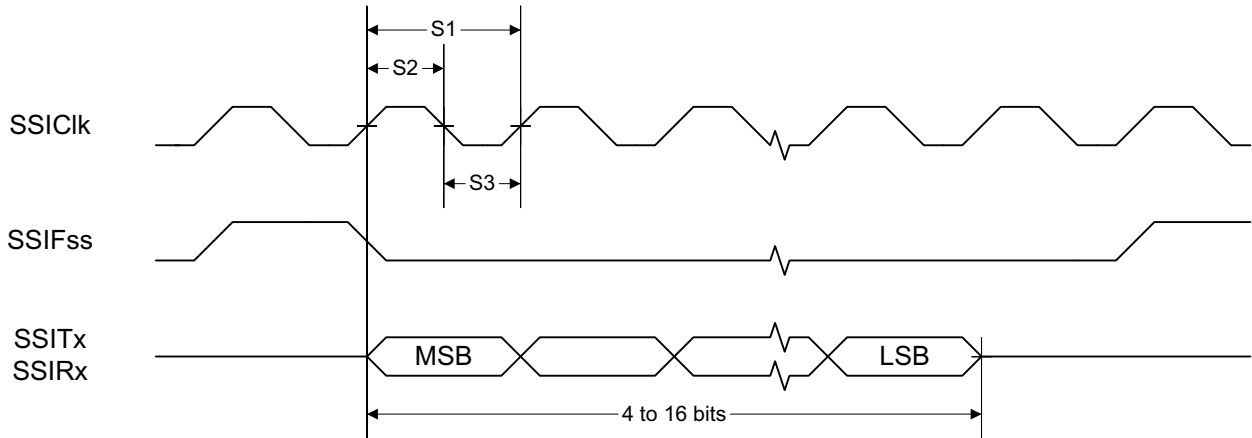
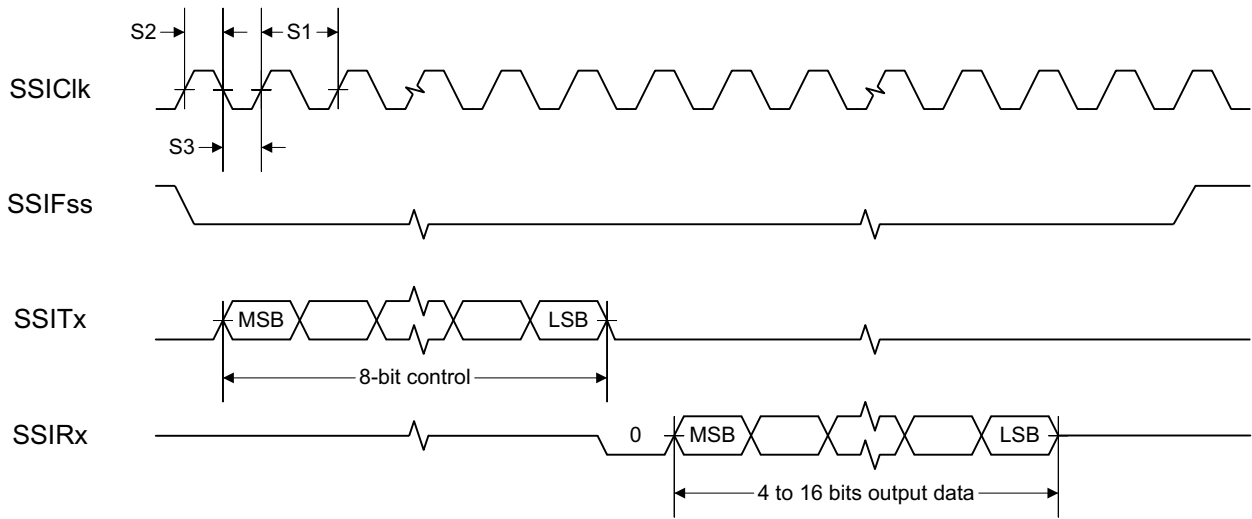
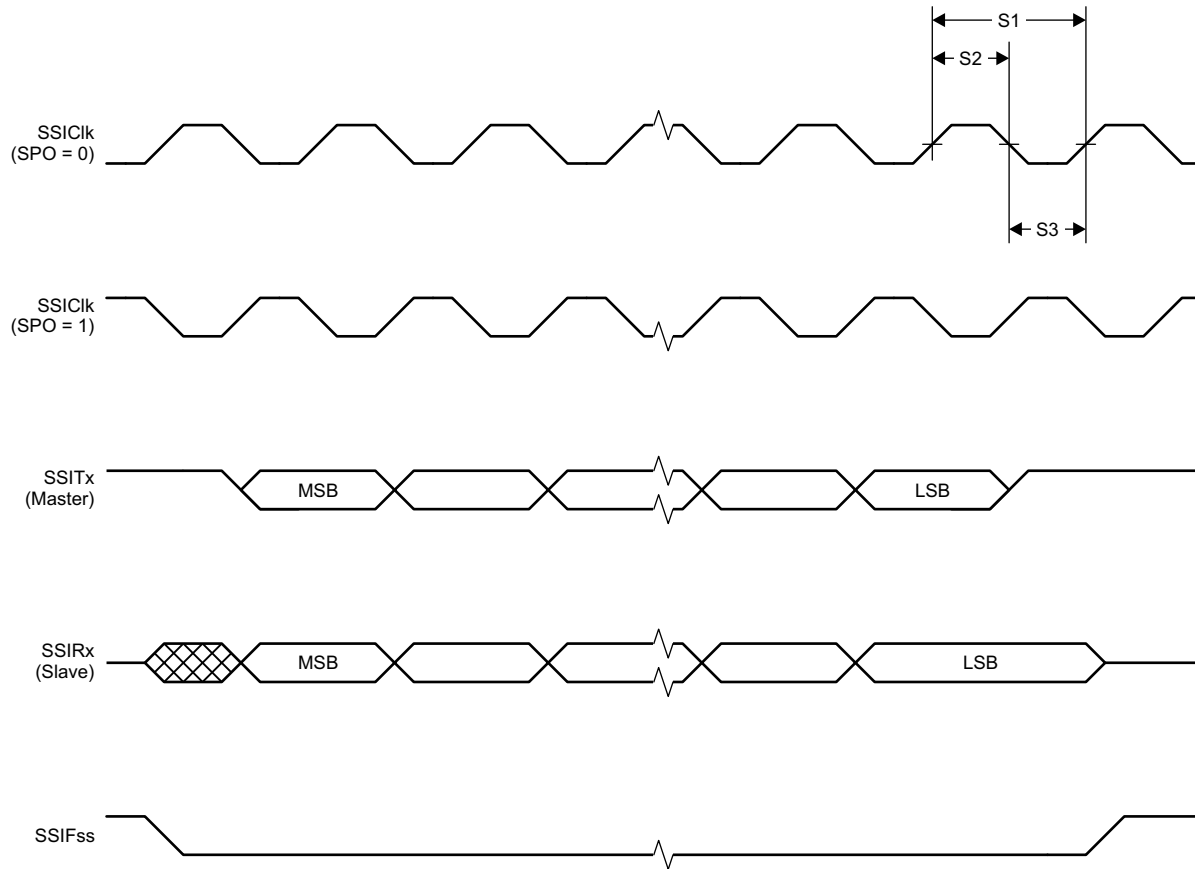

Figure 5-1. SSI Timing for TI Frame Format (FRF = 01), Single Transfer Timing Measurement
Figure 5-2. SSI Timing for MICROWIRE Frame Format (FRF = 10), Single Transfer
Figure 5-3. SSI Timing for SPI Frame Format (FRF = 00), With SPH = 1
(1) For smaller coin cell batteries, with high worst-case end-of-life equivalent source resistance, a 22-μF VDD5 input capacitor (see Section 7.1.1) must be used to ensure compliance with this slew rate.
(2) Applications using RCOSC\_LF as sleep timer must also consider the drift in frequency caused by a change in temperature (see Section 5.16).
(3) TA = -40°C to +85°C, VDD5 = 1.7 V to 3.8 V, unless otherwise noted.
(4) Tc = 25°C, VDD5 = 3.0 V, unless otherwise noted. Device operating as SLAVE. For SSI MASTER operation, see Section 5.26.
(5) Refer to SSI timing diagrams Figure 5-1, Figure 5-2, and Figure 5-3.
(1) Device operating as MASTER. For SSI SLAVE operation, see Section 5.25.
(2) Refer to SSI timing diagrams Figure 5-1, Figure 5-2, and Figure 5-3.